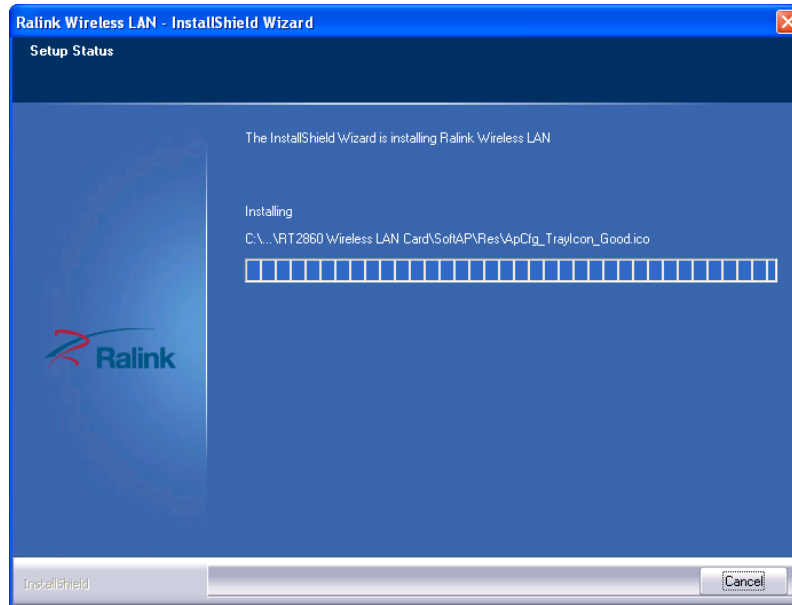

Figure 8-38: Setup Status
Step 12: The **Setup Status** screen in **Figure 8-38** appears and displays the progress of the installation.